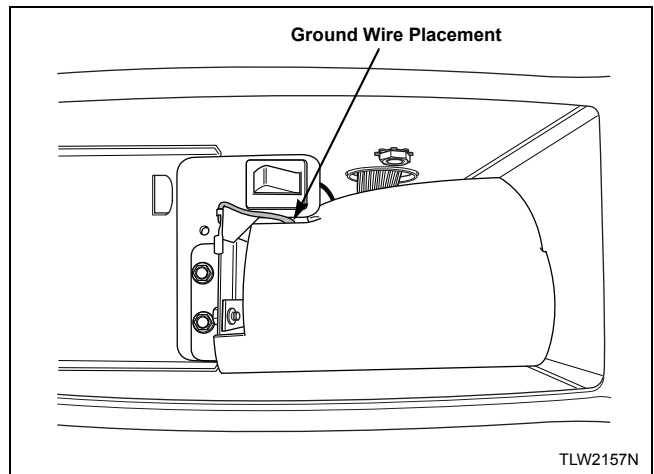

Figure 21
6. Before installing coin slide and extension, make sure ground wire is tucked under control shield to provide clearance for coin slide. Refer to *Figure 21*.